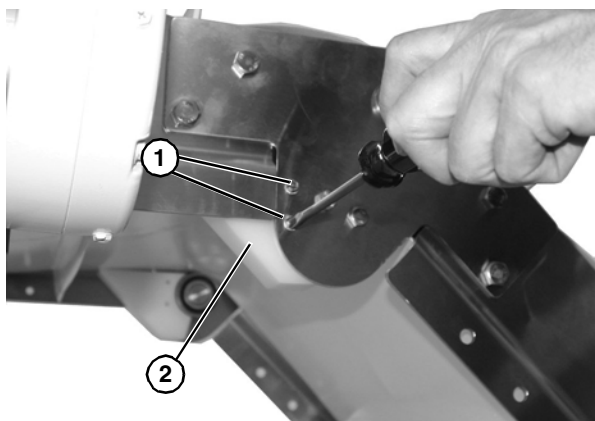

**Figure 58**
7. Remove spacer (**Figure 58, item 1**), rollers (**Figure 58, item 2**) and tube spacers (**Figure 58, item 3**) from shaft.